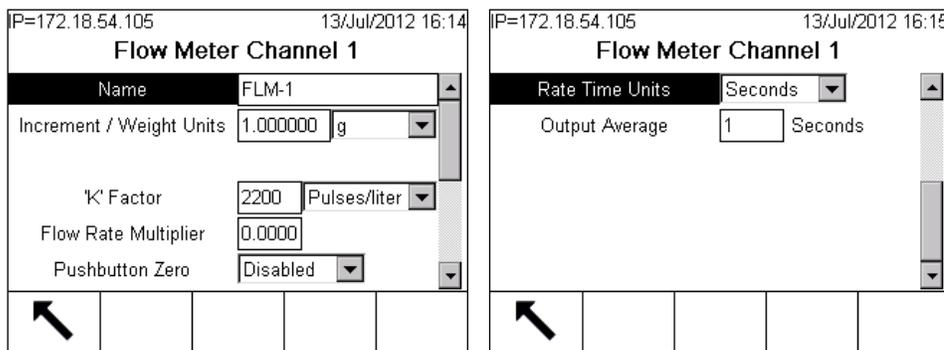

Figure 3-34: Flow Meter Channel Configuration Screen
- Custom (can be any unit not defined here, such as feet, meters, revolutions, etc.) Note that when a custom increment is selected, the K Factor will only display pulses/unit. Because the increment is a custom unit, the K Factor is now also a custom unit) When Custom is selected, an additional box will appear, where the name of the unit is entered. This field (Figure 3-34) is limited to 3 characters.